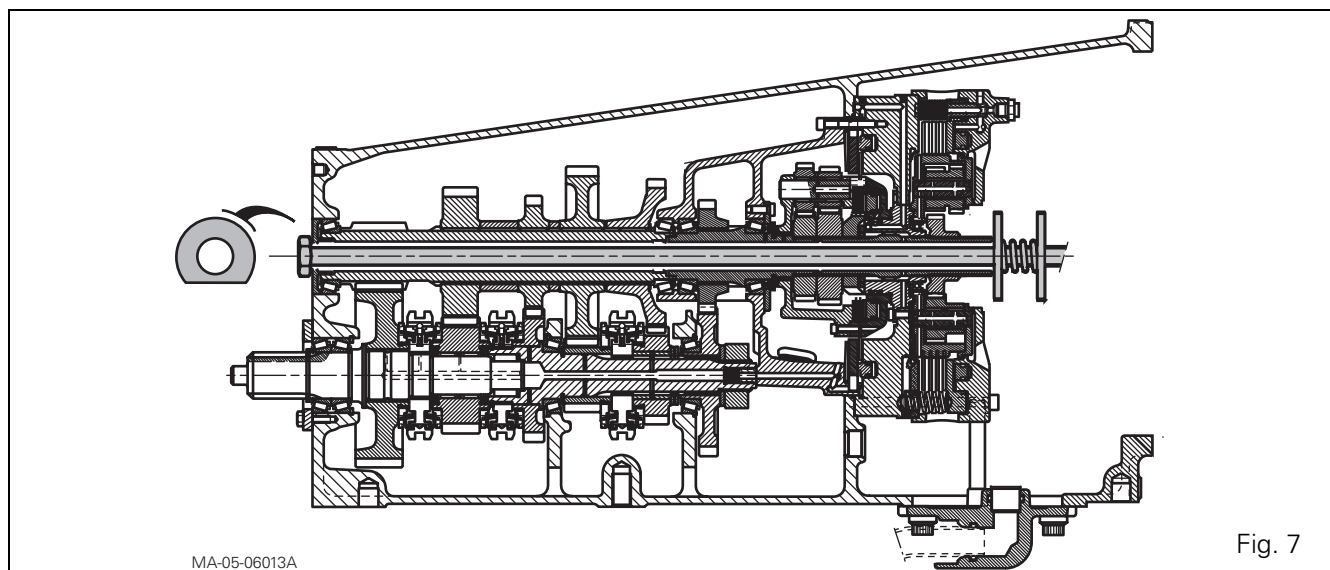

Fig. 7
36. Install the locally made tool (Fig. 7 and § I) in the shaft.